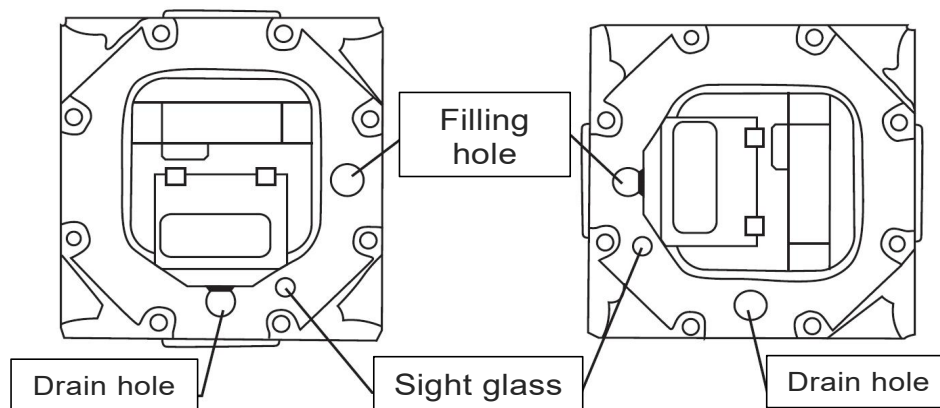

Figure 7 Oil filling and drain hole
(1) Oil should be added before the meter's running.
- (2) The meter has two oil chambers (see Figure 7), which should be refueled separately.
- (3) The oil injection hole is located directly above the meter, and the oil drain hole is located below the meter, as shown in Figure 7 (both vertical and horizontal installations are the same).
- (4) Loosen the well and remove the oil filling screw at the top, being careful not to lose the "O" ring
- (5) Use a sharp-necked bottle filled with lubricating oil to fill the oil injection hole so that the oil level reaches the center of the oil standard sight glass. Refer to Table 3.